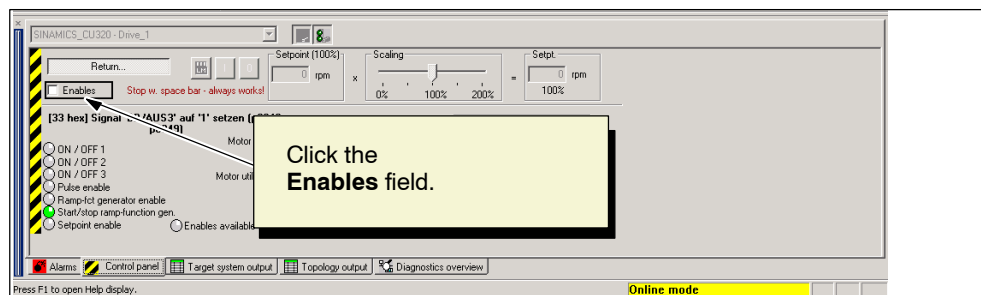

Fig. 4-9 Enables
- As shown in Fig. 4-9, click the **Enables** field to set the commands for enabling the control words in the drive system.